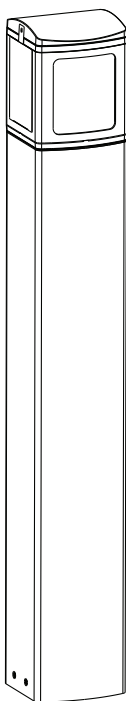

Fig. 2
- 2.) Put the shield in place over the flat opening. Ensure that the bent flange at the bottom is wedged in between the diffuser and outer die-cast cutout holding it in place (see **Fig. 2**).